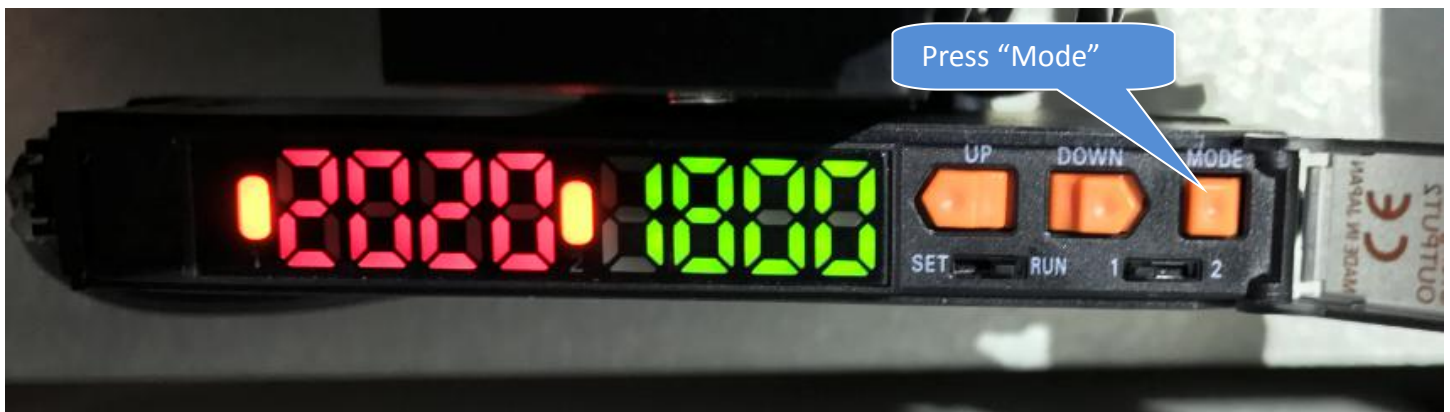

Figure 22 Teaching Interface
25. Press “MODE” button again and ignore the other setting until the display back to the teaching interface as below Figure 22